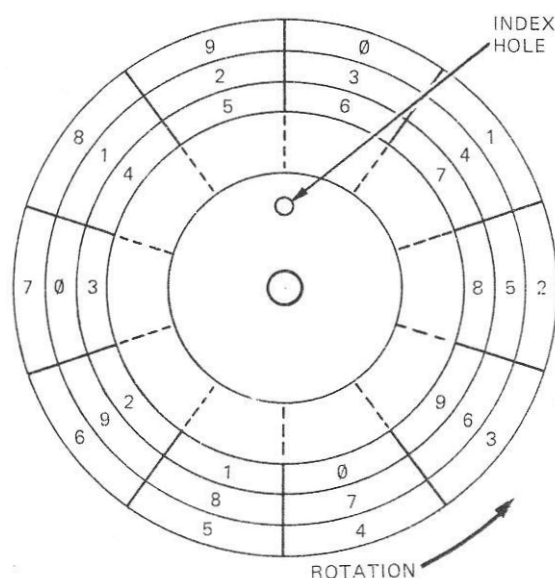

Figure 7. Data Format
The storage of data on floppy disc is organised by disc and surface, track and sector (Figure 7) as follows:
- *Sectors*. Each sector consists of identity and data fields. A data field holds up to 256 bytes of data. The sectors are recorded on a +3 stagger to obtain file transfers in the minimum number of disc revolutions (Figure 7).